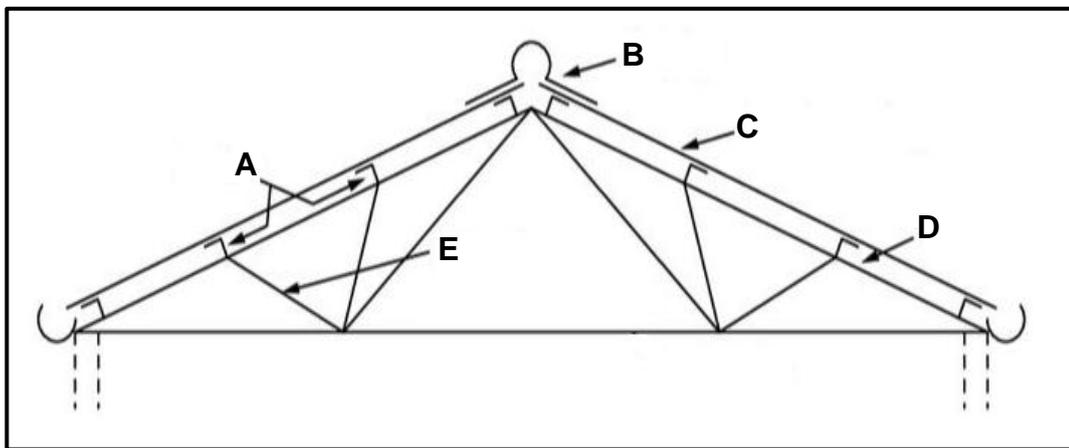

FIGURE 5.6
5.6 FIGURE 5.6 below shows a roof truss. Label parts A–E.